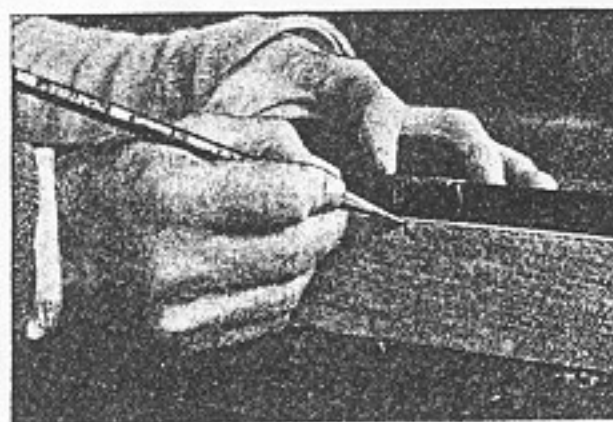

Fig. 37. Measuring with rule on edge, and fine pencil point.
3. When laying out accurate measurements, the rule is placed on edge and the distance is marked with a knife or fine pencil point (Fig. 37). When using older rules, it is better to measure from the 1-in. mark rather than from the end, which may be worn.